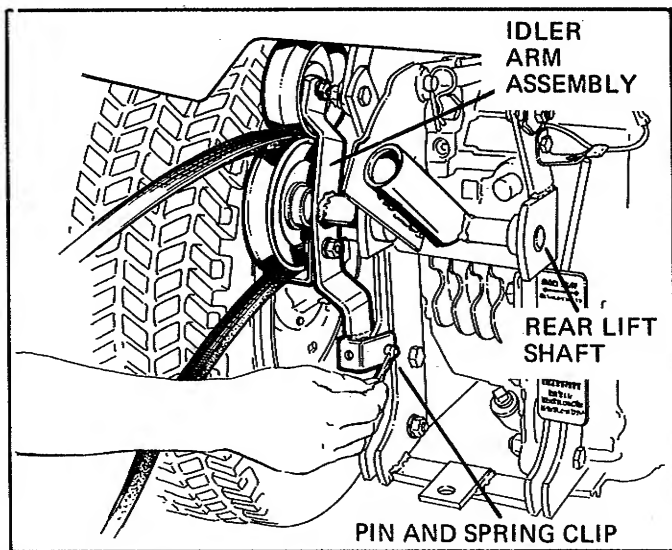

Figure 1.
2. See Figure 1. Slide the idler arm assembly onto the left end of the rear lift shaft. Attach the lower end of the idler arm assembly to the hitch member with a pin and spring clip.